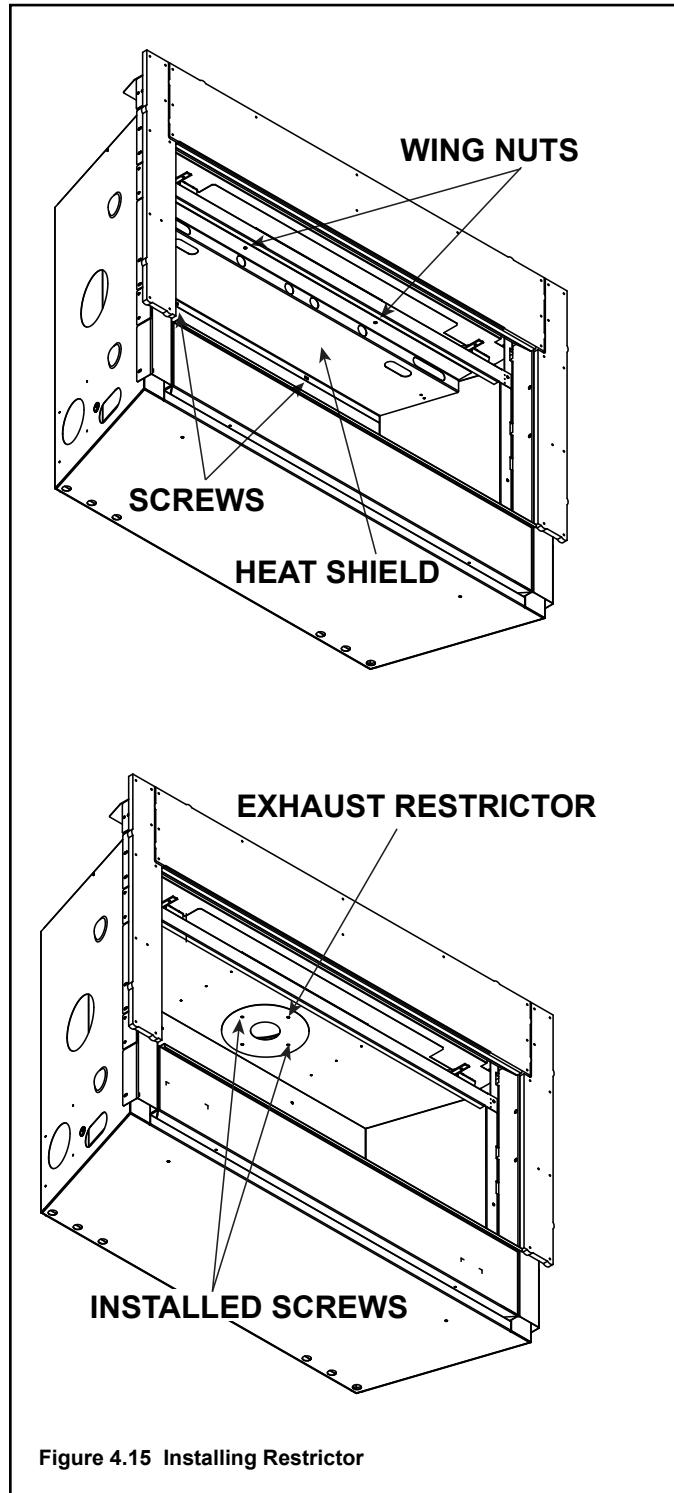

Figure 4.15 Installing Restrictor
- JADE32IN/JADE42IN/JADE42IL:** Center the exhaust restrictor in the open end of the exhaust outlet and secure through the slots on the exhaust restrictor with the two 1/4 in. self-tapping screws provided in the appliance manual bag. See Figure 4.15.